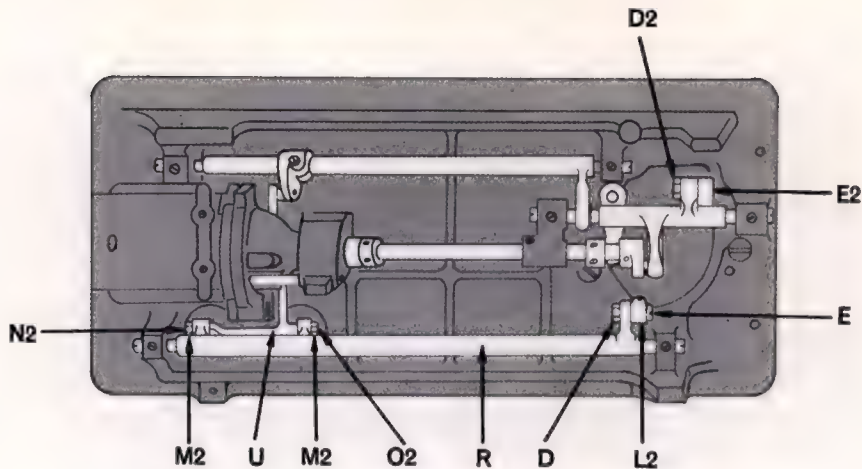

Fig. 27.
#### REMOVAL: (See Fig. 27)
1. Loosen nut D2, Fig. 27, page 17, and remove screw stud E2, Fig. 27, page 17.
3. Replace screw stud E2, Fig. 27, page 17, engaging connecting rod with oscillating rock shaft.
#### REMOVAL: (See Fig. 27, page 16)